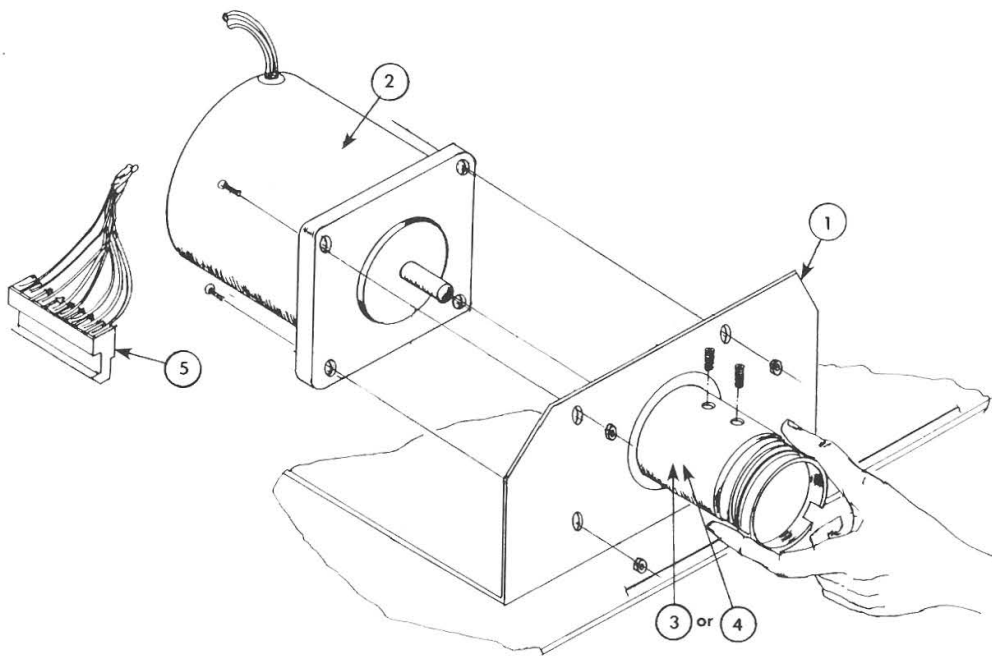

FIGURE 4-14
E. STEPPER MOTOR ASSEMBLY DMP-803 (See Figure 4-14)